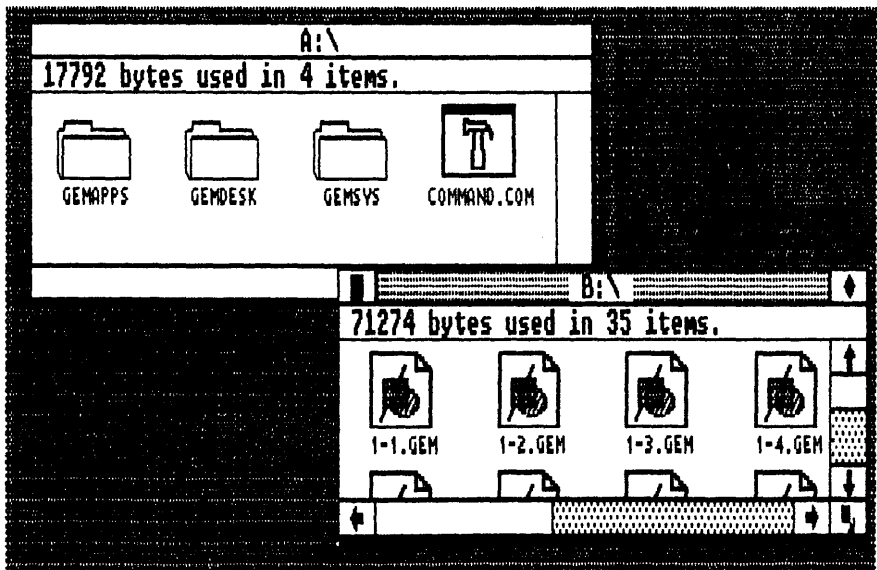

Fig. 1-10. Sliders, Scroll Bars, and arrows, move the items that are inside the window.
**Moving the Work Area.** Many times the dimensions of the window are insufficient for displaying all of the work area's contents. Sliders, Scroll Bars, and direction arrows enable you to move the work area left-right and up-down for viewing the entire contents of the directory. These controls are found on the right-hand and bottom borders of the active window (Fig. 1-10).